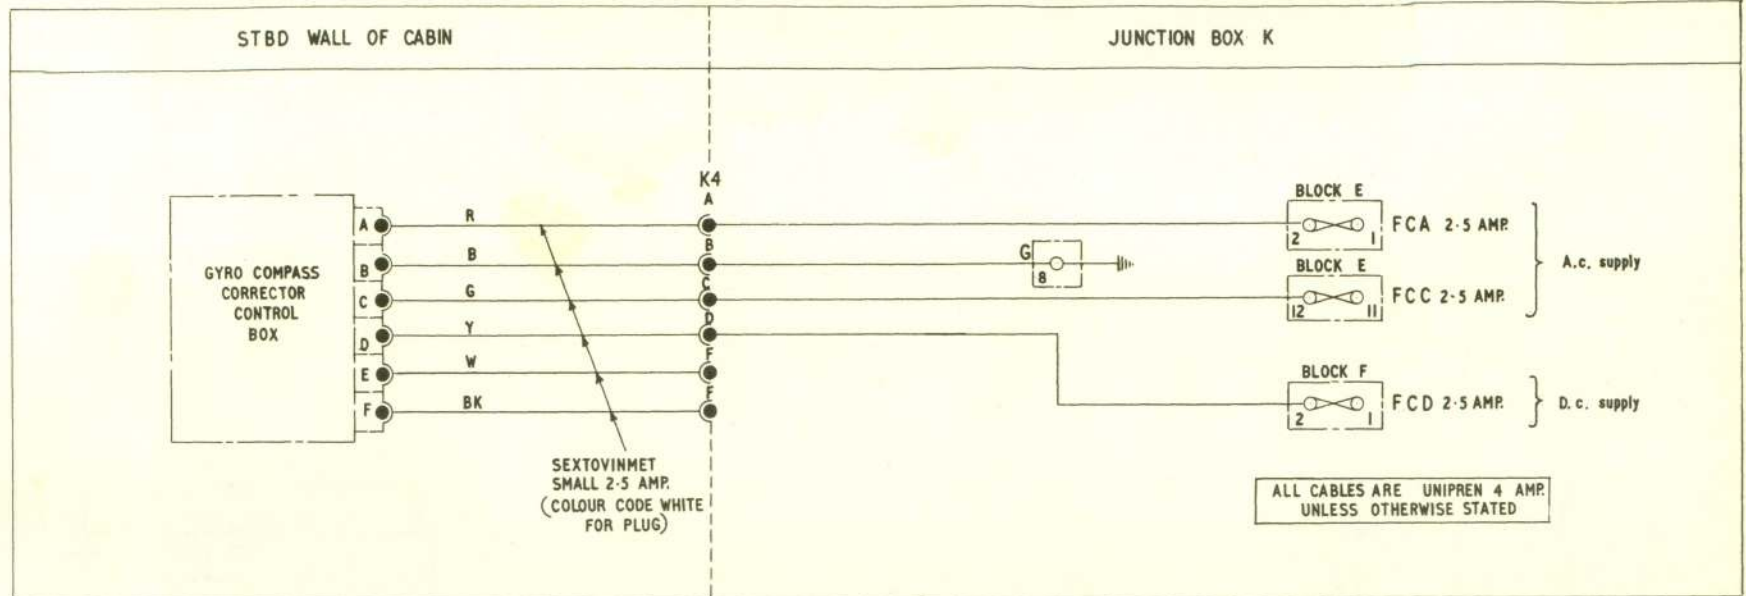

Fig. 2. GM4F compass supply-FG
3. An emergency change-over switch is positioned on the instrument panel; with this switch at the normal position, the turn and slip indicator operates from the aircraft supply. Under emergency conditions of a complete electrical failure, the change-over switch is moved to EMERGENCY. In this position, the turn and slip indicator is supplied direct from the emergency 24-volt battery. This battery also supplies the two emergency cabin lamps, by way of the cabin emergency lamps switch (Group L, fig. 2).